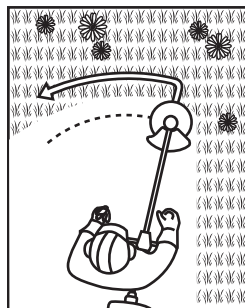

Fig. 23
5. Move the product with a slow regular arc from left to right before moving it back to the starting position before trimming the next area (Fig. 23).